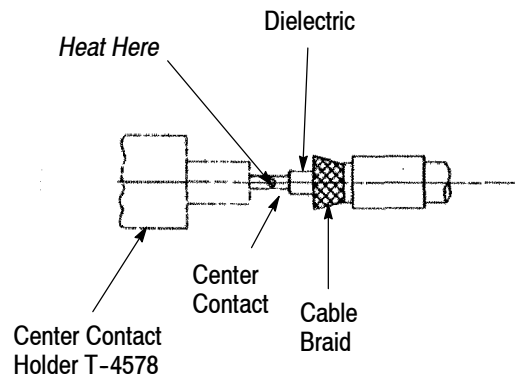

Figure 4
2.2. Soldering the Center Contact to the Inner Conductor (Figure 4)